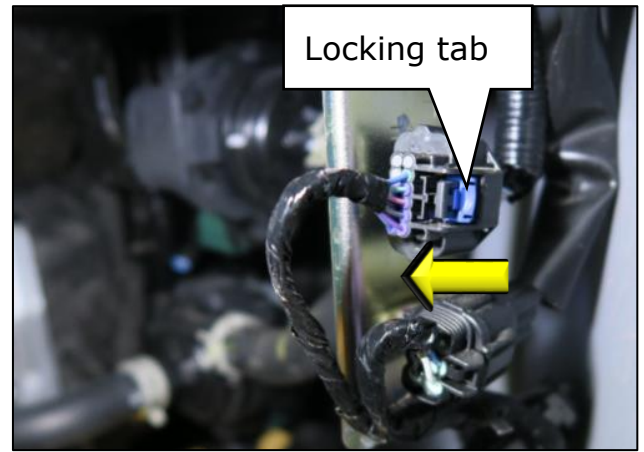

Figure 20
18. Pull the upper connector blue locking tab toward the rear of the vehicle. (Figure 20)